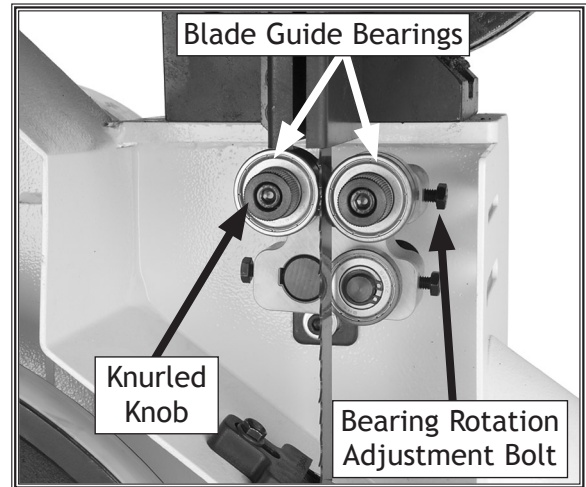

Figure 30. Lower blade guide controls (front view).
3. Familiarize yourself with the lower blade guide controls shown in Figures 30 and 31.